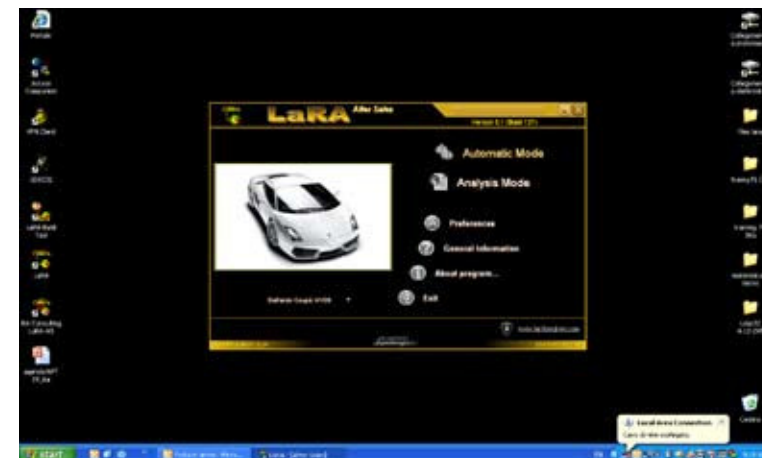

Fig.46
- Select the “Gallardo Coupè MY09” vehicle (**Fig.46**).